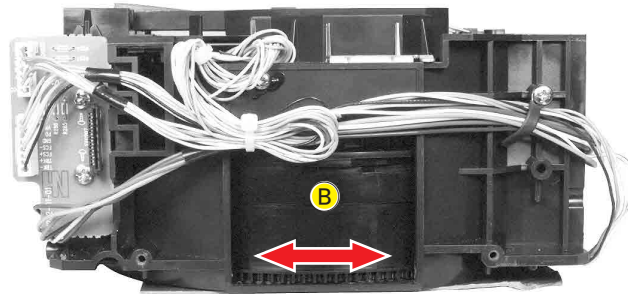

Fig. 3
The positions of the cam wheel (B) (Fig. 3) can be reached by rotating it by hand.